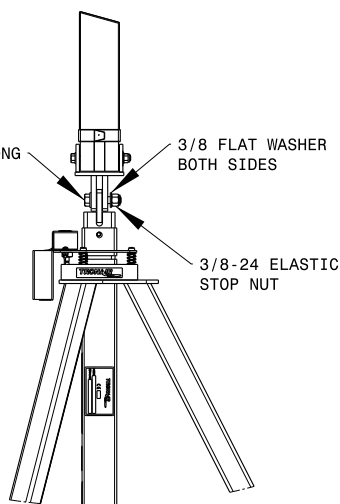

FIGURE 3
2. Fasten cradle assembly to extension tube with one (1) ½ - 20 x 2 ¼ inch hex head bolt, two (2) ½ inch flatwashers, and ½ - 20 elastic stopnut. **Reference Figure 3.**